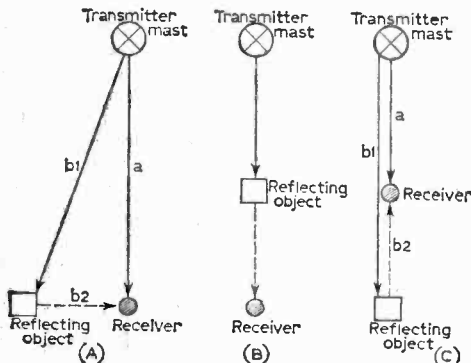

Fig. 1—The basic geometric relations of transmitter, reflector and receiver for ghost production.
It is the path difference between main and reflected signals which causes a proportionate time delay between the two signals, according to Table 1. We can distinguish three principle conditions, shown in Fig. 1, assuming the same relative transmitter-receiver and reflector-receiver distances in each case. In case (A), where these two distances are at right angles, so that a and b_1 are roughly equal, the path-difference is very roughly b_2 , the reflector-receiver distance. In case (C), where transmitter, receiver, reflector are in line, in that order, the path-difference is seen to be twice b_2 , so that the ghost will appear twice as far from the main image as in case (A).